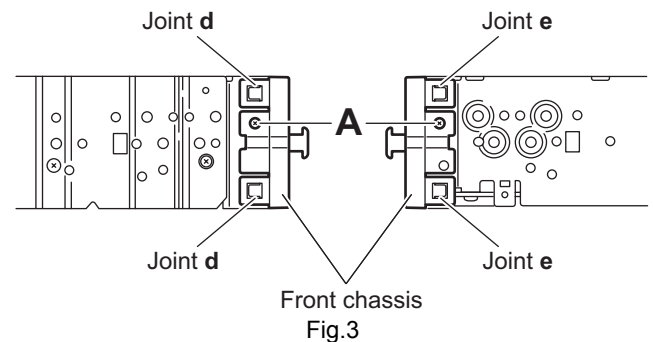

Fig.3
2.1.3 Removing the front chassis (See Fig.3)